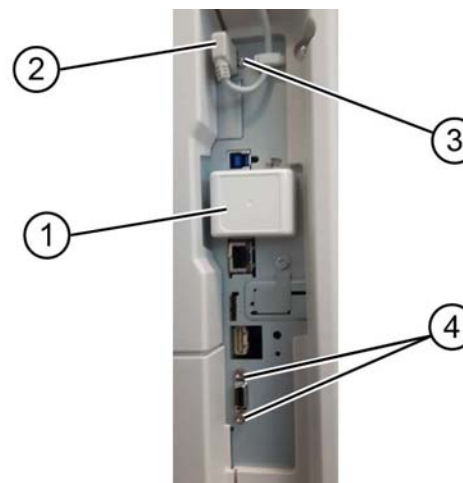

Figure 11 ESS PWB side connectors
12. Disconnect the connectors and fittings from side of ESS PWB, Figure 11.
- a. If fitted, remove the wireless dongle (1).
- b. Disconnect the USB cable (2).
- c. Remove screw for the USB connector (3).
- d. Remove screws for the D-type connector (4).